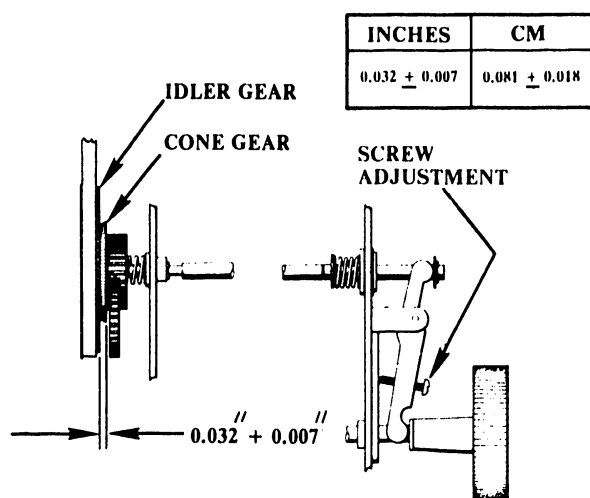
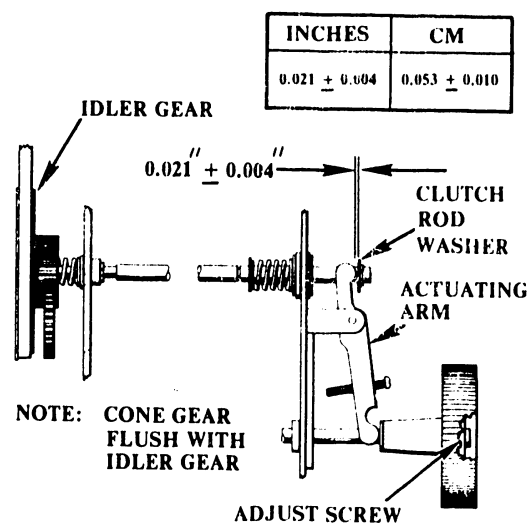

FIGURE 6-31 SPROCKET
FIGURE 6-32 SPROCKET
- 1) By using the horizontal vernier knob, push the vernier clutch in and out. With the use of a feeler gauge check for a clearance of $0.032'' \pm 0.007''$ ($0.081 \text{ cm} \pm 0.018 \text{ cm}$) between the idler gear and the cone gear as shown in Figure 6-31. Also, when the knob is released after paper advancement, the vernier clutch should fully reengage flush with gear surface as shown in Figure 6-32.
- 1) With the clutch engaged (automatic advance) adjust the Allen screw in the center of the horizontal vernier knob for a gap of $0.021'' \pm 0.004''$ ($0.053 \text{ cm} \pm 0.010 \text{ cm}$) between the actuating arm and the clutch-rod washer (see Figure 6-32).
- 2) With the clutch disengaged (manual advance), adjust the screw on the actuating arm for a $0.032'' \pm 0.007''$ ($0.081 \text{ cm} \pm 0.018 \text{ cm}$) gap between the cone gear and the idler gear (see Figure 6-31). (This screw can be adjusted through the hole in the horizontal vernier knob.)